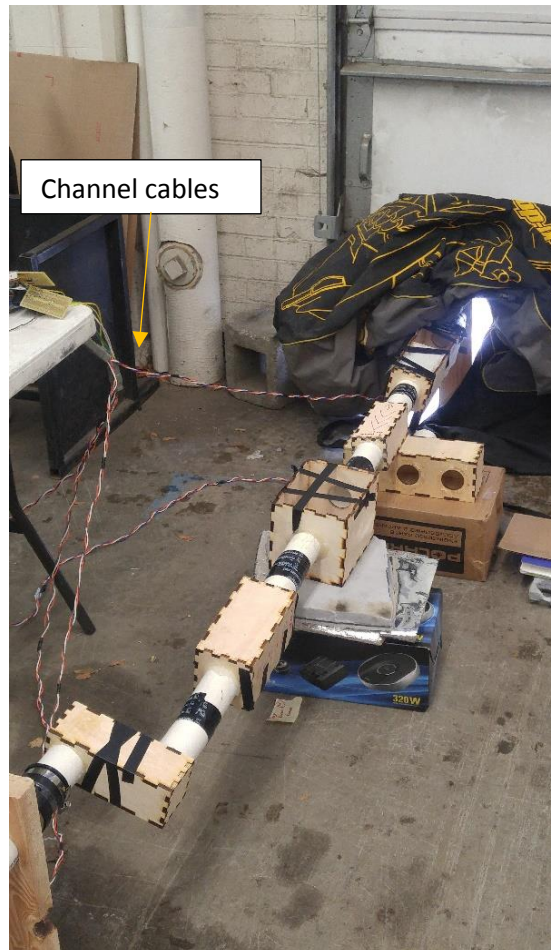

Figure 5: UISB With End in Open Environment
5. Connect outlet 2" PVC pipe to test element with end facing outside as seen in Figure 5.